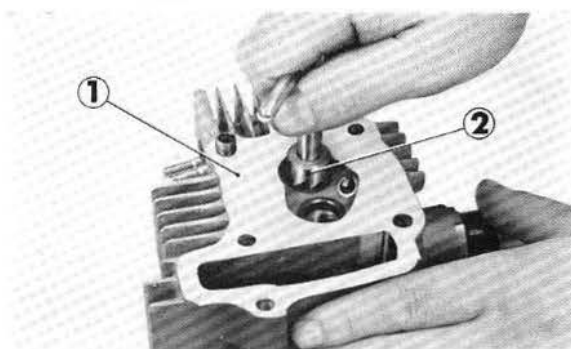

Fig. 2-13 ① Cylinder head
3. Inspect the valve seat by assembling the valves as shown in Fig 2-13 and pour oil into the combustion chamber to cover the valves. Apply a blast of compressed air into each ports; if bubbles are produced, it is an indication that the valves are not properly sealing and repair is necessary. (Fig. 2-13)
The valve seat is reworked by three types of cutter; 30°, 45° and 60°. The 45° cutter is used for truing the seat while the 30° and 60° cutter are used to cut the top and bottom of the valve seat to produce the proper seat width and also to position the seat. (Fig. 2-13)